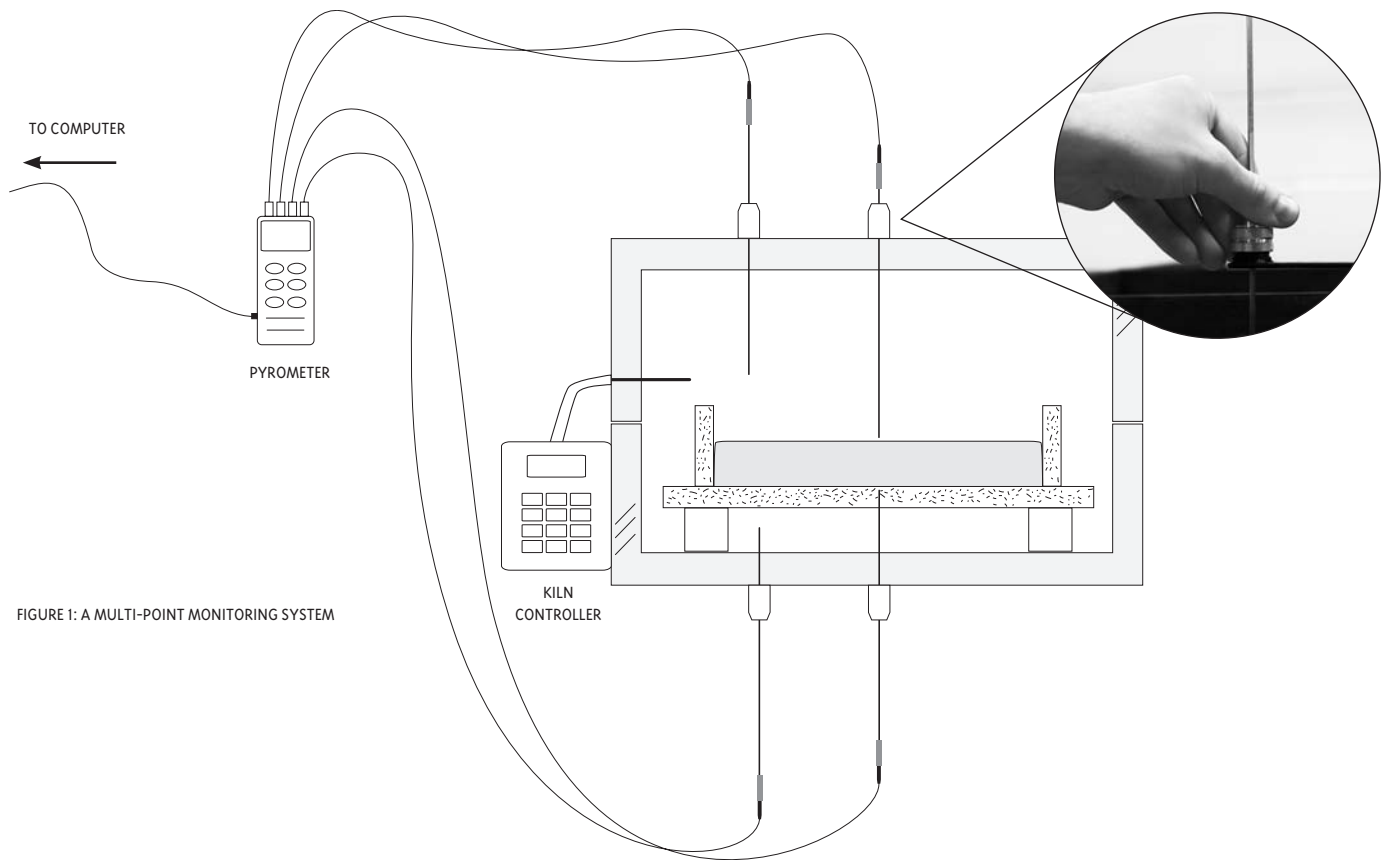

FIGURE 1: A MULTI-POINT MONITORING SYSTEM
Our multiple-point temperature monitoring system involves the use of thermocouples and a pyrometer. The pyrometer displays temperatures that are sensed by the thermocouples, which are placed at two or more locations within the kiln. (Figure 1)
For large slabs of glass, we use a minimum of 2 thermocouples—one above and one below the top and bottom surfaces of the glass. (Figure 1) We position the bottom thermocouple by drilling a small hole in both the bottom of the kiln and the kiln shelf. Then we thread the thermocouple from underneath until it is as close as possible to the bottom surface of the glass without actually touching it. To position the top thermocouple, we drill a hole in the top of the kiln directly above the bottom thermocouple. During firing, when the glass has reached the anneal soak temperature, we loosen the collet and lower the top thermocouple down until it contacts the now-rigid glass surface. This thermocouple then allows us to accurately monitor the temperature of the top surface of the glass.
For this process, we typically place one thermocouple above the shelf at the same height as the kiln’s control thermocouple and one below the shelf. (Figure 1) Data collected at these points can help to determine how well the kiln is firing and whether or not the control thermocouple is reading accurately. This data can also be used to establish different programs for the top and the bottom of the kiln—if they can be independently controlled—to ensure a uniform temperature within the glass.
- At Bullseye, we attach collets (keyless chucks, welded to small sheet metal plates) to the outside of the kiln, in line with the drilled holes. The collets can be hand-tightened and loosened to secure the thermocouples and/or reposition them, as needed. (Figure 1)